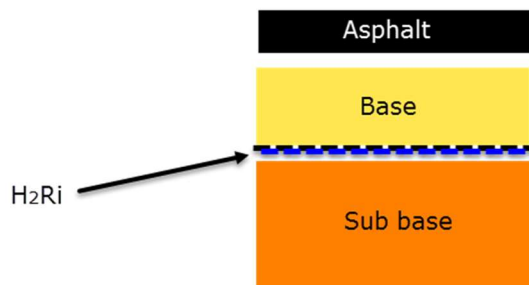

Figure 2 - Aggregate base and sub base
2. Enhanced Lateral Drainage: Place the Mirafi® H₂Ri under the aggregate base course of a pavement structure as shown in Figure 2. This solution increases the drainage coefficient for the aggregate base, significantly improving the service-life of a roadway.